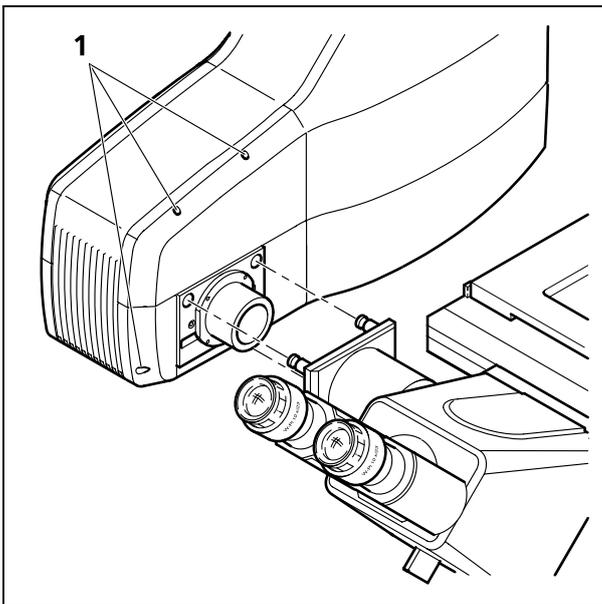
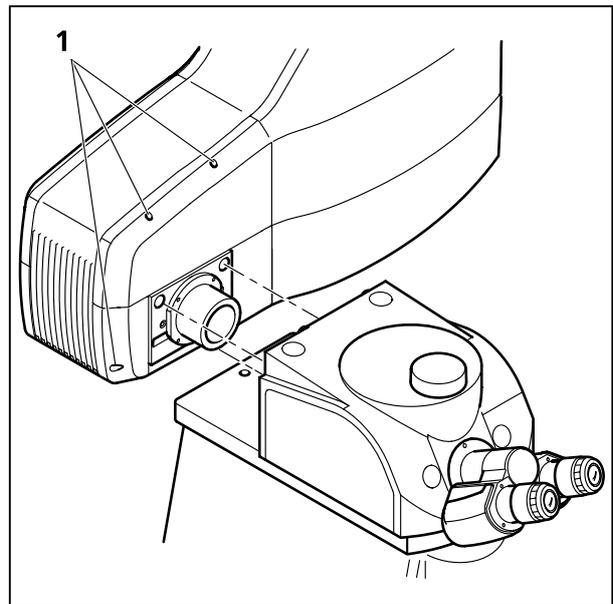

Fig. 1-12 Port connection between LSM 5 LIVE and Axiovert 200 M
Fig. 1-13 Fastening screws of the scan head at the front of the tube on Axioskop 2 FS MOT and Axio Imager.Z1
- Loosen the three screws on LSM 5 LIVE or LSM DuoScan scan head (Fig. 1-12/1 or Fig. 1-13/1).
- Slowly pull the scan head away from the microscope port or the tube. For mounting the scan head onto a microscope, make sure the pins and the electronic connections of the safety interface match closely. Fasten the three screws on the LSM 5 LIVE or LSM DuoScan scan head (Fig. 1-12/1 or Fig. 1-13/1).